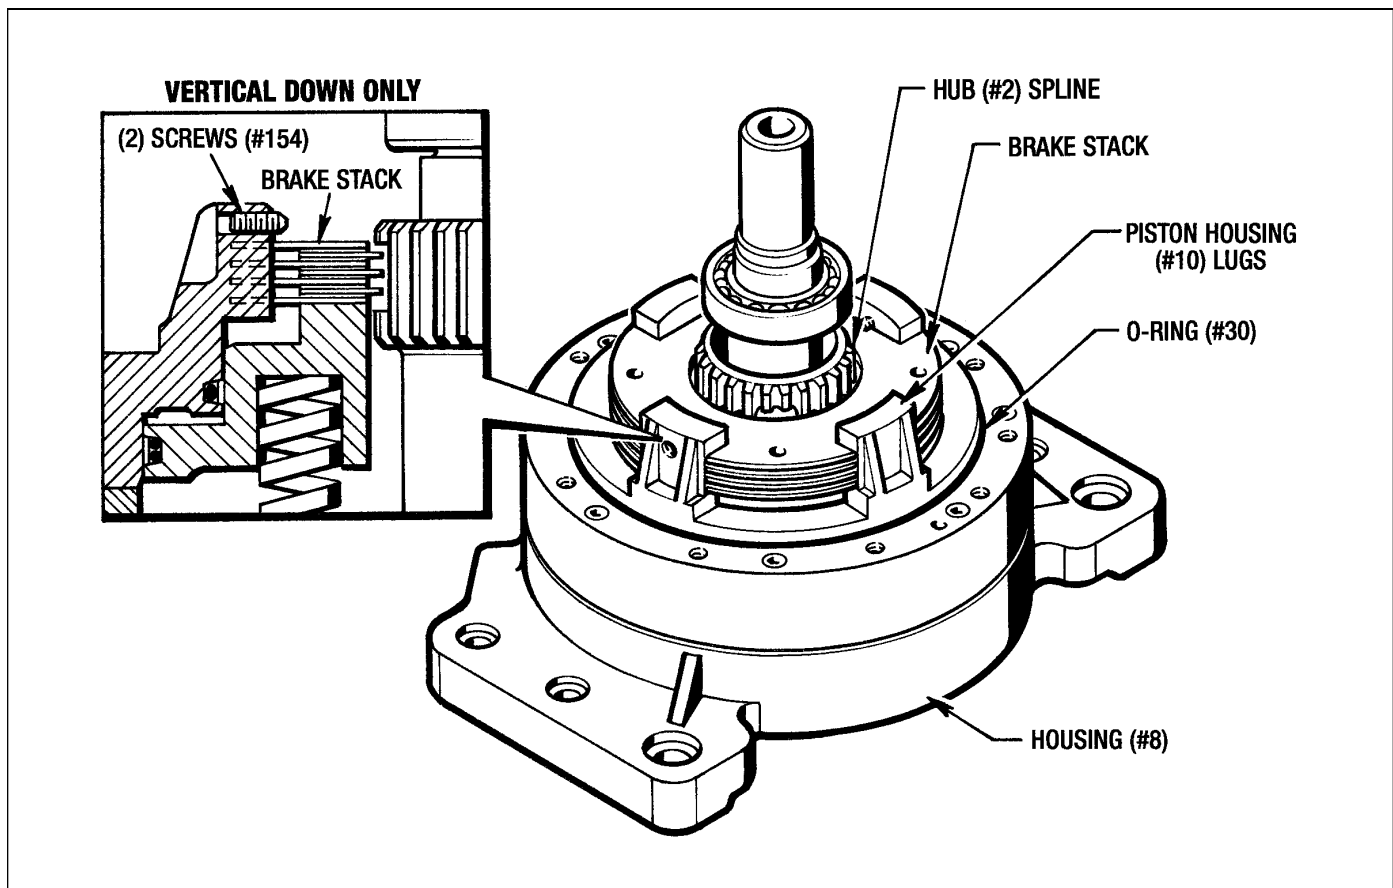

Figure 7.3 - Removing Brake Stack
(1) **Horizontal Brake (MB-210-494)** - There will be (4) Drive Plates (#12) and (3) Friction Discs (#13).
(2) **Vertical Down Brake (MB-201-496) and Vertical Up Brake (MB-210-497)** - There will be (1) Drive Plate (#12), (3) Drive Plates (#18), (12) Separator Springs (#17) and (3) Friction Discs (#13).
(3) **Vertical Down Brake (MB-201-496)** - There will also be (2) Soc. Set Screws (#154) located in the Piston Housing Lugs (#10) to hold the Brake Stack in place. These (2) Set Screws (#154) will have to be loosened up to get the Brake Stack off. (See Figure 7.3)